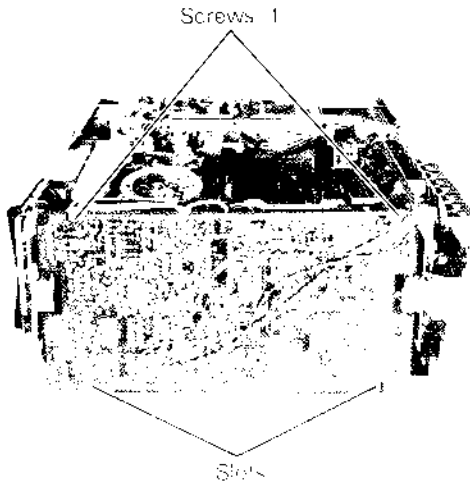

Fig. 4-8
1. Remove the two screws 1 on the printed circuit board as shown in Fig. 4-8.